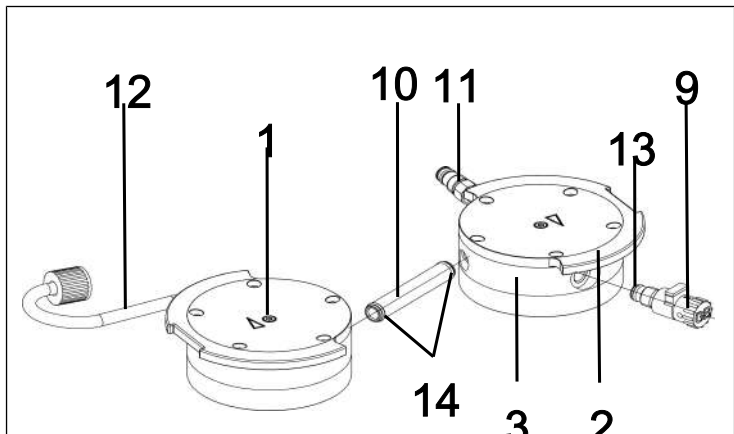

Fig.15: Change O-rings
2. Pull the connection tube (10/ Fig. 15) out of the head plate (3).
3. Replace the two O-rings (14) on the connection tube (10/ Fig. 15).
6. Unscrew the gas ballast (**9/Fig. 15**) from the head plate (**3**).
7. Replace the O-ring (**13**) on the gas ballast (**9/Fig. 15**).
8. Screw the gas ballast (**9/Fig. 15**) into the corresponding head plate (**3**) as far as it will go. Then turn it back again until the surface is oriented upwards.
7. Insert the connection tube (**10/Fig. 15**) back into both head plates (**3**).